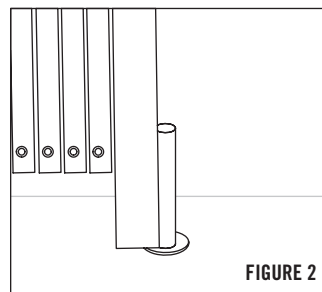

FIGURE 2
- 2) Have a helper extend the gate and stand it upright where it will be mounted. Drill 3/4" diameter x 3" deep hole, 11" from wall into the floor for gate pin to set into. Place a bearing washer over floor hole and set bottom gate pin into floor mount hole. (See Figure 2)